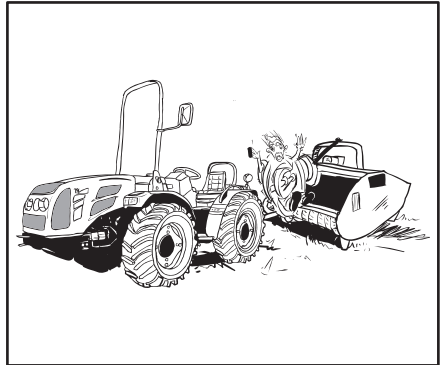

Fig. 2.18
- Before connecting, disconnecting, cleaning or adjusting towed implements from the power take-off, turn off the engine, remove the key and make sure that the power take-off's shaft is locked in place (Fig. 2.18).